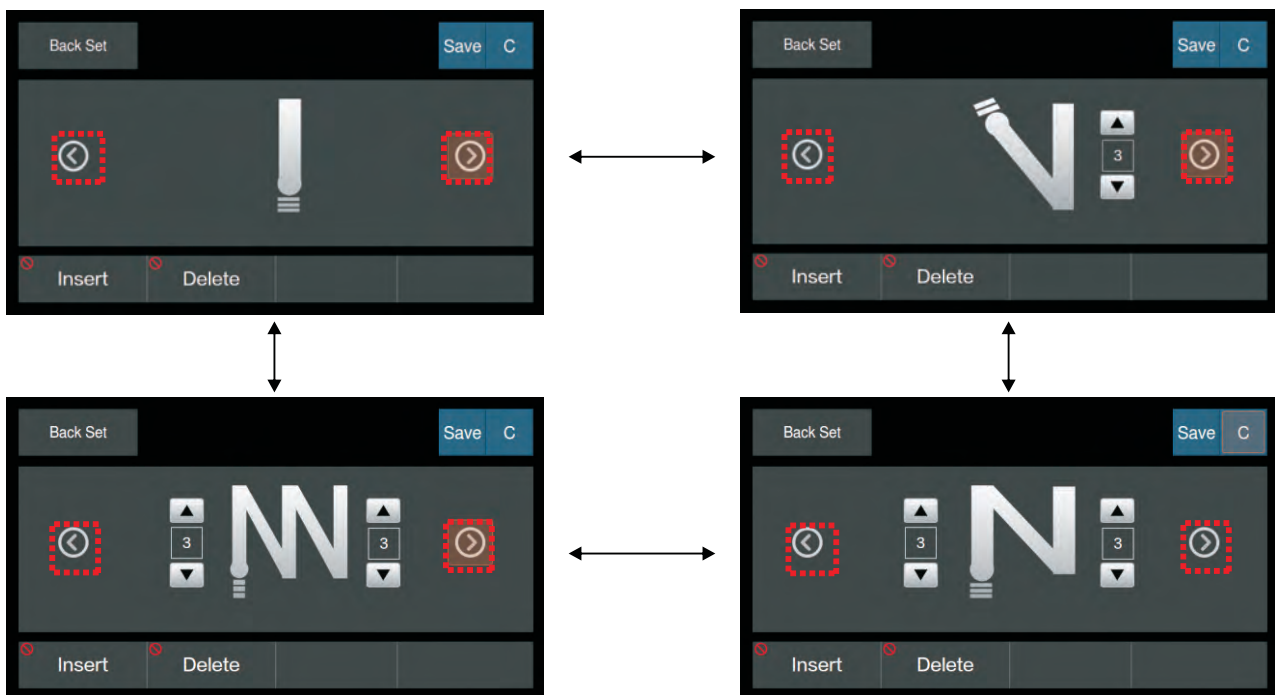

Figure 2-5 Back reverse stitching mode switching
Touch the   pattern in the setting interface, and the rear reinforcement patterns are cyclically switched as shown in Figure 2-5. Among them, Figure ① pattern is no reinforcement, Figure ② pattern is single segment reinforcement, Figure ③ pattern is two-segment reinforcement, and Figure ④ pattern is four-segment reinforcement.